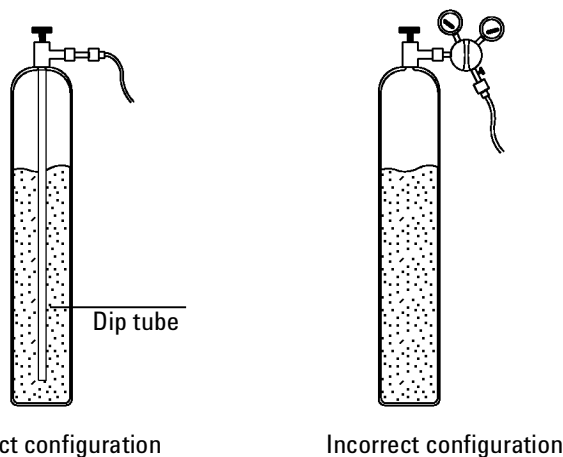

Figure 1. Correct and incorrect liquid CO₂ tank configuration
- The tank must have an internal dip tube or eductor tube to deliver liquid CO₂ instead of gas (see Figure 1.).